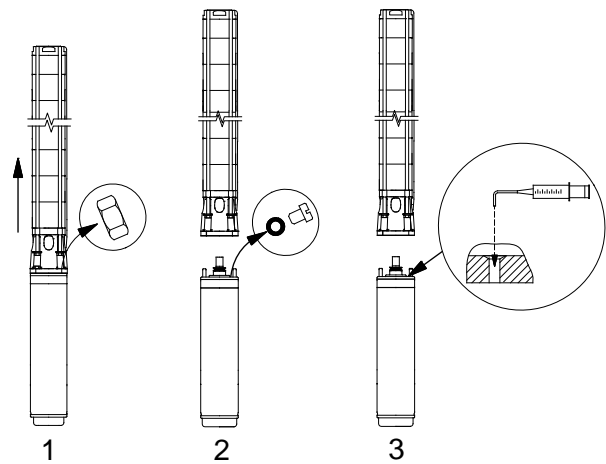

Fig. 3
- If the motor is delivered from stock, the liquid level must be checked before the motor is fitted to the pump, see fig. 3.
- In the case of service, the liquid level must be checked, see fig. 3.
1. Position the submersible pump as shown in fig. 3. The filling screw must be at the highest point of the motor.
3. Inject liquid into the motor with the filling syringe, fig. 3, until the liquid runs back out of the filling hole.